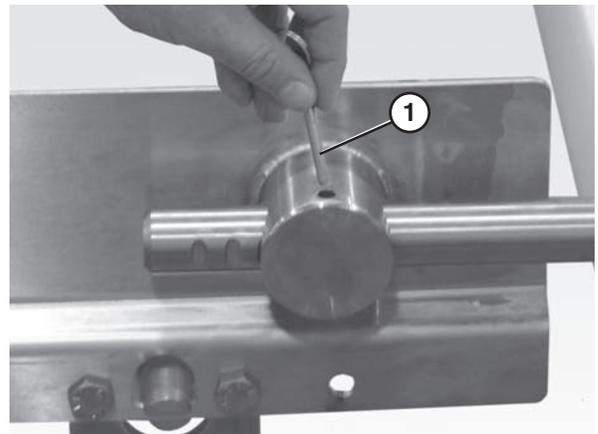

Figure 47
2. Remove the pull pin (Figure 47, item 1) on the tension end of the conveyor to release belt tension.